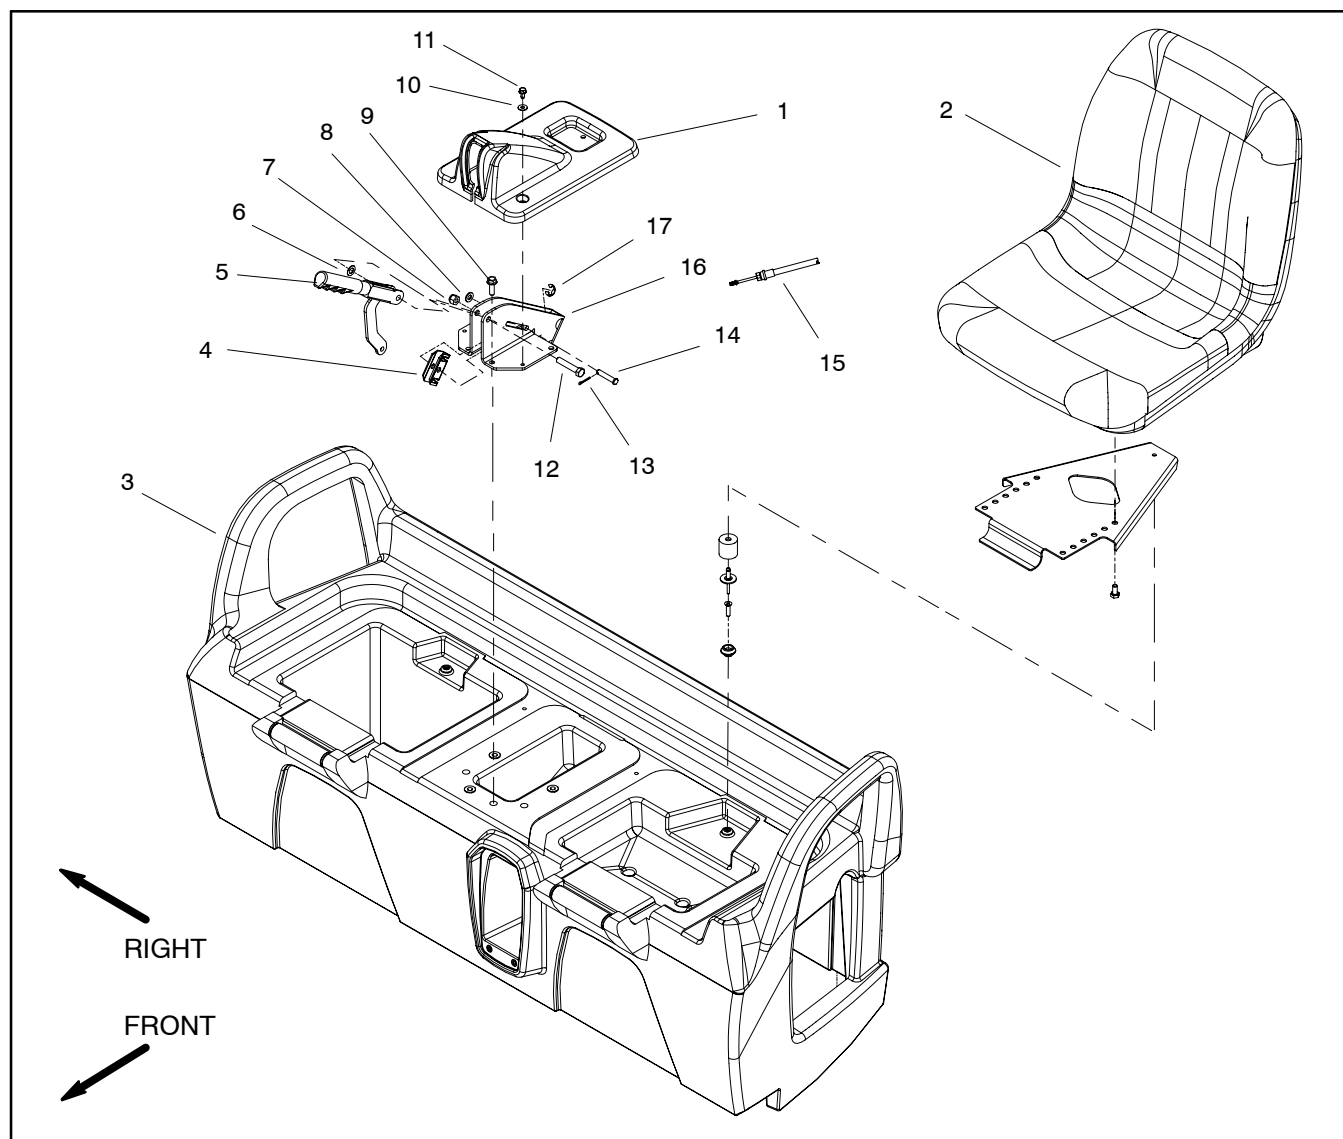

Figure 10
Disassembly (Fig. 10)
5. Remove four (4) flange head screws that secure parking brake support to seat base.
7. Remove brake cables from parking brake support and cable equalizer bracket using Figure 10 as a guide.
Assembly (Fig. 10)
1. Secure brake cables to parking brake support and cable equalizer bracket using Figure 10 as a guide.
3. Secure parking brake support to seat base with four (4) flange head screws.